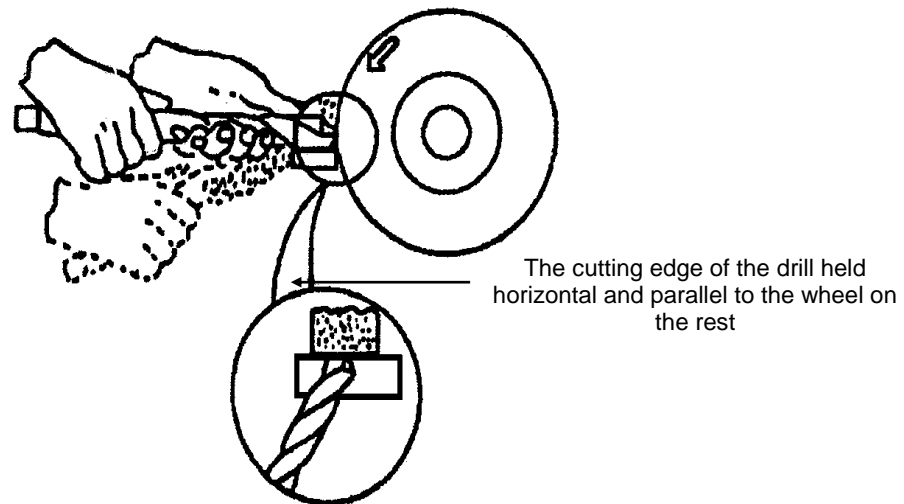

FIG 2.
A. Sharpening procedure (see Figs 2 and 3 on the next page).
- Position the cutting edge of the drill to the wheel in such a way that it is parallel with the face of the wheel. See Fig 2 on next page.